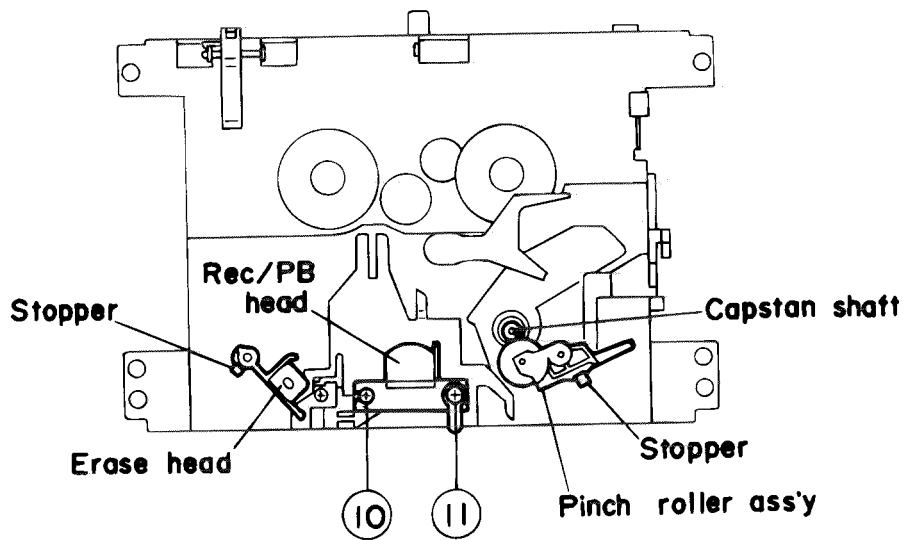
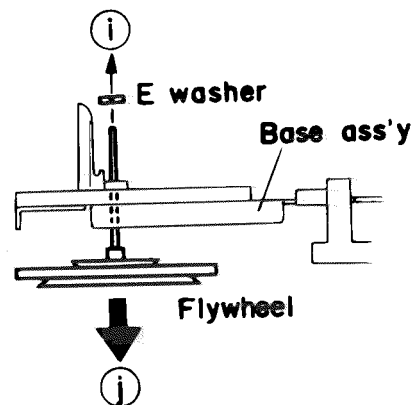

Fig.2-13
Fig.2-16
■ Pinch roller assembly (Fig.2-13 to 2-14)
1. Pull out the stopper protruding from the base assembly in the direction of the arrow ⑤ to remove it from the pinch roller assembly.
2. Then, pull out the pinch roller assembly in the direction of the arrow ⑥.
■ Rec /PB head and erase head (Fig.2-13 to 2-15)
1. Remove two screws ⑩, ⑪ retaining the Rec/PB head.
2. Pull out the stopper of the erase head in the direction of the arrow ⑨.
3. Pull out the erase head in the direction of the arrow ⑨.
■ Flywheel assembly (Fig.2-16)
1. Remove the split washer retaining the flywheel assembly in the direction of the arrow ⑩.
2. Pull the flywheel assembly out of the back side of the cassette mechanism assembly in the direction of the arrow ⑪.